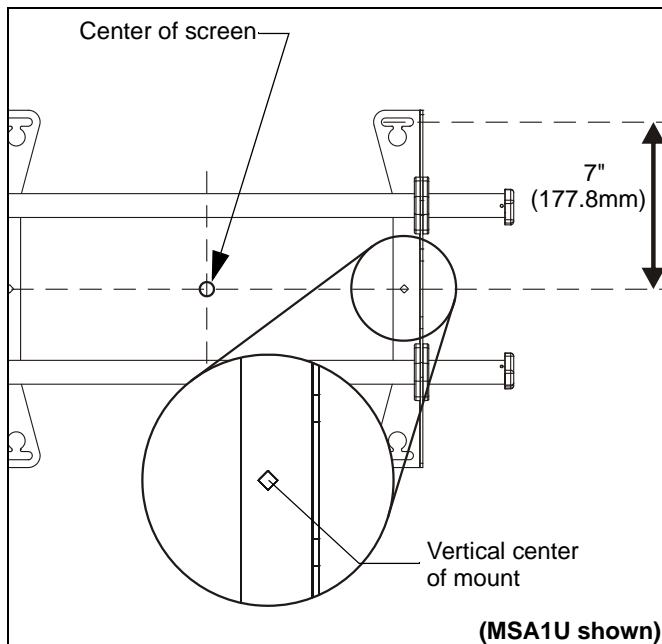

Figure 1
3. Line up the diamond shapes on mount (Z) with center of screen marking to determine vertical center. (See Figure 1)
4. Measure up 7" (177.8mm) from the center point to mark location of the upper mounting slots. (See Figure 1)
2. Line up the diamond shapes on mount (Z) with center of screen marking to determine vertical center. (See Figure 1)